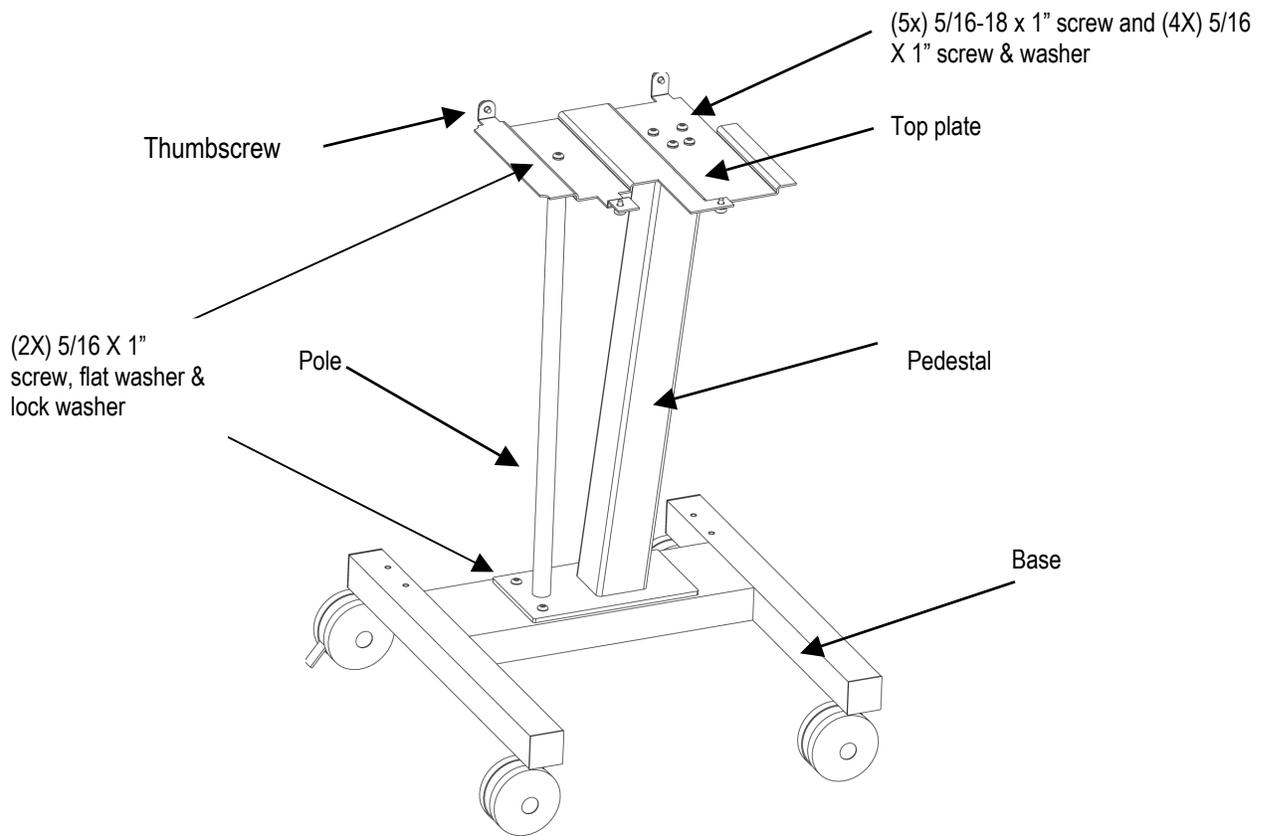
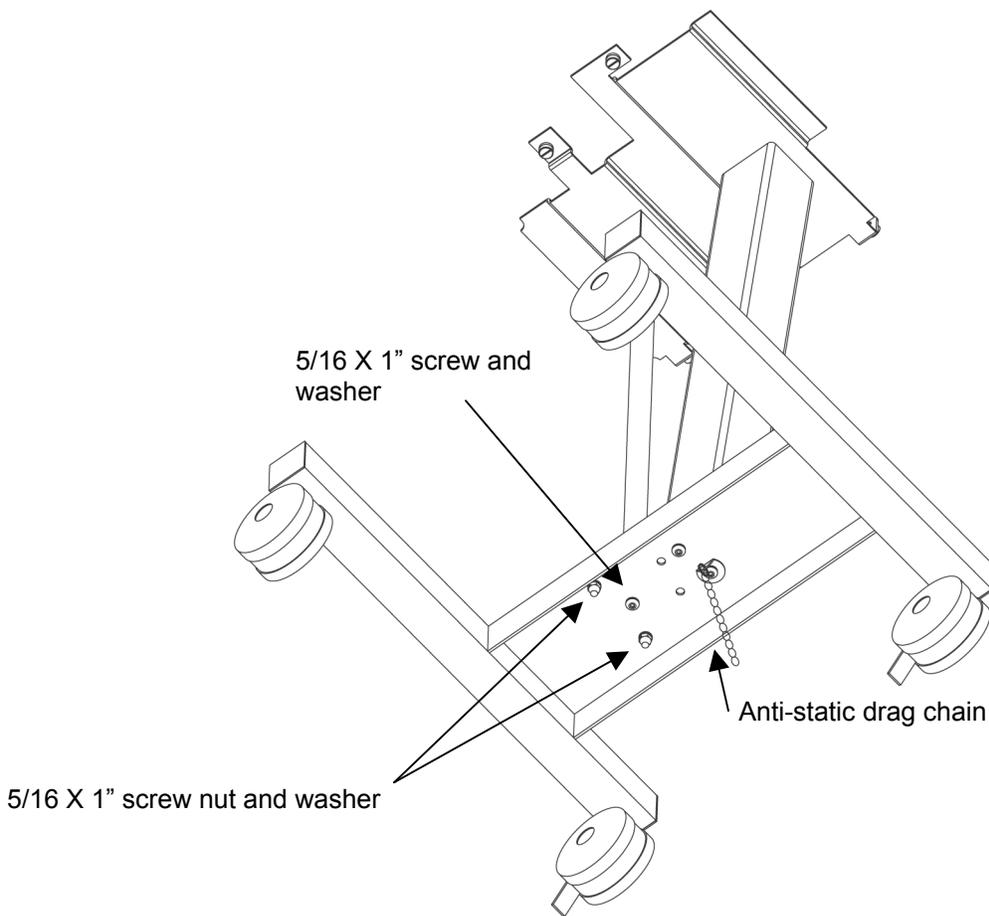

Figure 3.1 Assembling the Stand
Figure 3.2: Bottom of stand
2. Attach the base to the pedestal using the 5/16" screws, washers and nuts as shown in Figure 3.1. The anti-static drag chain may be attached to either screw.
3. Attach the pole to the assembly using the 5/16" screws and washers (refer to Figure 3.1).
4. Attach the top plate to the pedestal using the 5/16" screws and washers (refer to Figure 3.1).
5. Place AVEA Ventilator on top plate, align thumbscrews (4) and lightly start all thumbscrews to locate AVEA Ventilator (refer to figure 3.2). Fully tighten (4) thumbscrews to secure AVEA Ventilator.
3. Remove the four-legged base assembly from the carton and set the base on the floor as shown in Figure 3.1.
4. Place the pedestal onto the base assembly as show in Figure 3.1.
5. Using the 1/8" Allen wrench provided, install and secure the (4) 10/24" x 3/4" screws along with the (4) star washers.
6. Install the collar set screw using the 1/8" Allen wrench as shown in Figure 3.2.
7. Remove the pole from the top plate carton and install and secure the 1" pole using the collar set screw as shown in Figure 3.2.
8. Remove the top plate and set it onto the pedestal and pole as shown in Figure 3.2.
10. Using the 1/8" Allen wrench, secure the set screw of the upper collar into the 1" pole as shown in Figure 3.2.